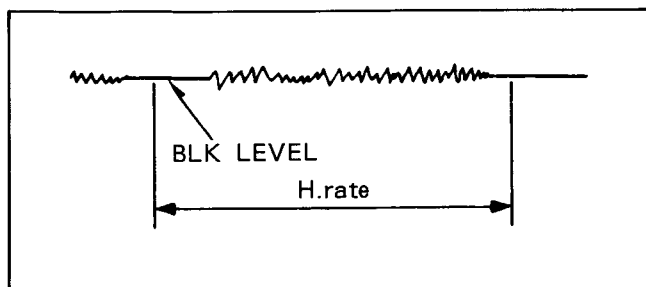

Fig. C13.
- (1) Cover the Camera Lens with the Lens Cap.
- (2) Connect the scope to TP514 and trigger with Pin 7 of FP306 (H-Rate).
- (3) Adjust the Pedestal Level Control (VR301) so that the signal level equals the BLK level as shown in Fig. C13.